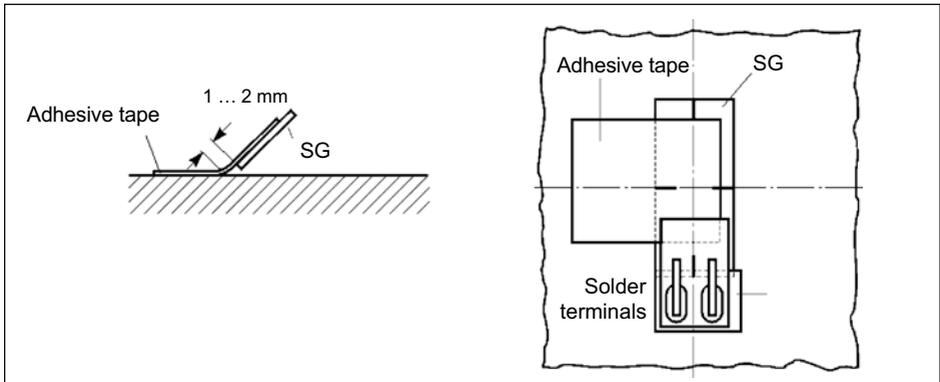

Fig. 3.7 Fixing the strain gage to the measurement object
- Align the SG on the measurement point prepared according to *Section 3.4.2, Page 31* so that the axis markings on the SG are aligned with the position markings. Press on the adhesive tapes, see *Fig. 3.7*, so that a hinge-like connection is formed between the SG and measurement object.